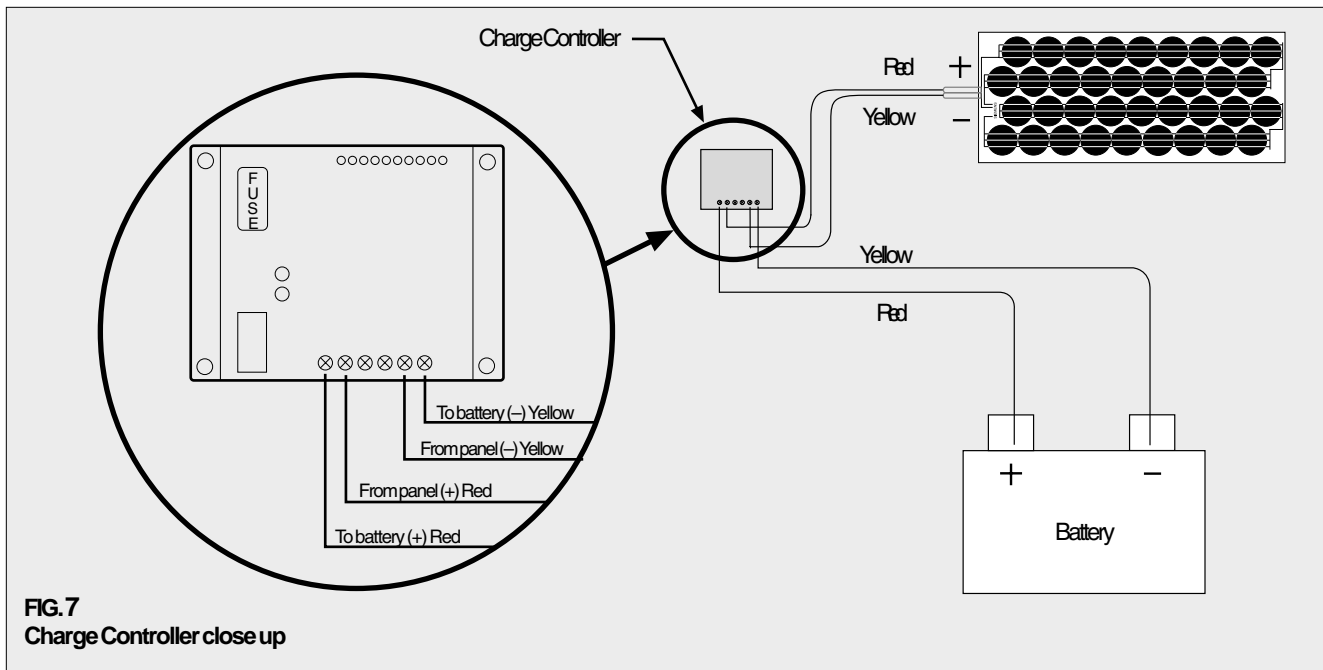

FIG. 7
3. Route the power cable to the controller and on to the battery. Leave enough slack to allow for easy connection. FIGURE 7
Wire the controller according to FIG. 7. The red (positive) wire coming from the Solar Module should be connected to the positive "Array" terminal on the controller.